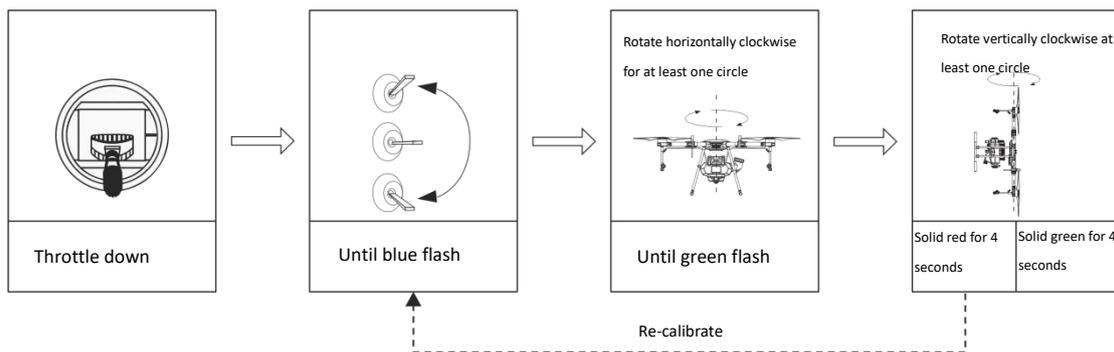

Figure 1-4-7 Compass calibrate
Step5: Calibration fails if the status indicator shows solid red for 4 seconds. Repeat step 2-4 until the operation succeeds. See Figure 1-4-7.